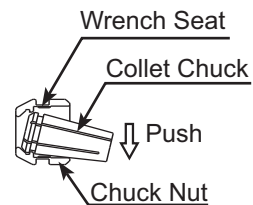

Fig. 22
- (2) The collet chuck and chuck nut are held together by a groove in the collet chuck and a frange in the chuck nut. To remove the collet chuck, hold the chuck nut in one hand and push diagonally down on the collet chuck. The collet chuck should be released (Fig. 22).
- (3) Install the new collet chuck in the chuck nut by positioning the collet chuck in the chuck nut and pressing down on a flat surface. (Fig. 22)